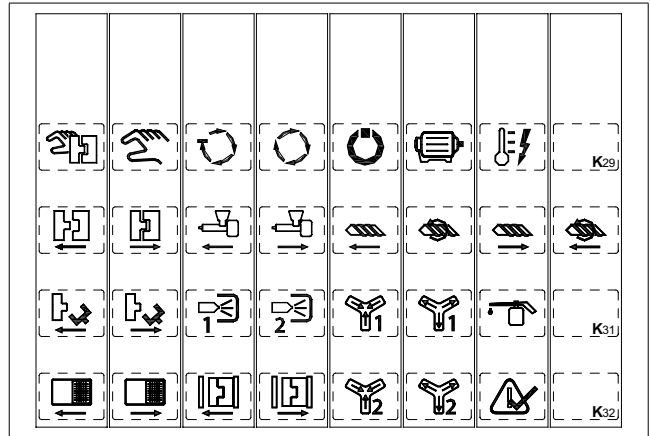

Figure 34 - Set of injection labels
- Injection labels (see Figure 34)